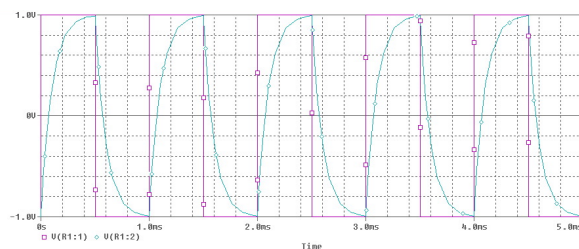

Figure 8-21 Square Wave through a Low-Pass Filter
5) Run the simulation in the usual way to obtain an output that should look like Figure 8-21 below. Note that if you asked for both an AC Sweep and a Transient analysis then you will have to select which result you wish to examine once the simulation is done.